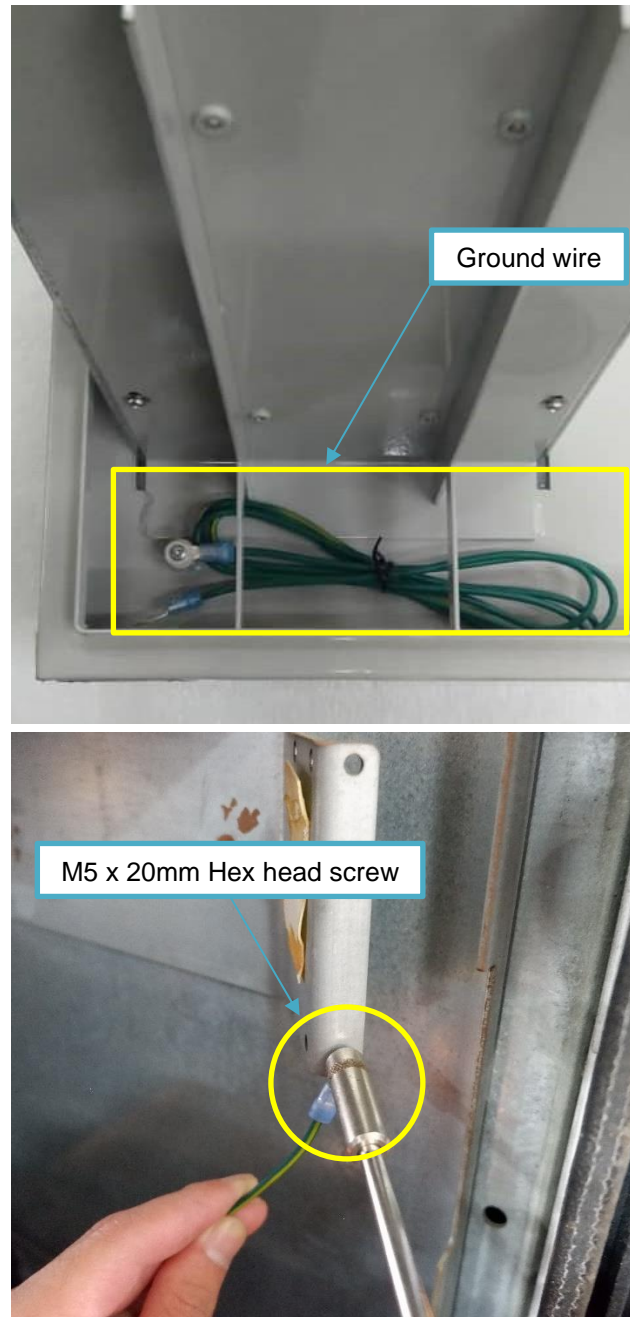

Fig 4.12 – Tighten the screw using T socket wrench size 8mm.
9. Install the ground wire that is already pre-fitted on the RP00013-XX RFK door assembly to the dispenser on the previous position, refer to step 10 of the disassembly procedure. Re-install the M5 x 20mm hex head screw that was previously removed and saved during the disassembly procedure by using T socket Wrench size M5 x 20mm. (Fig 4.12)